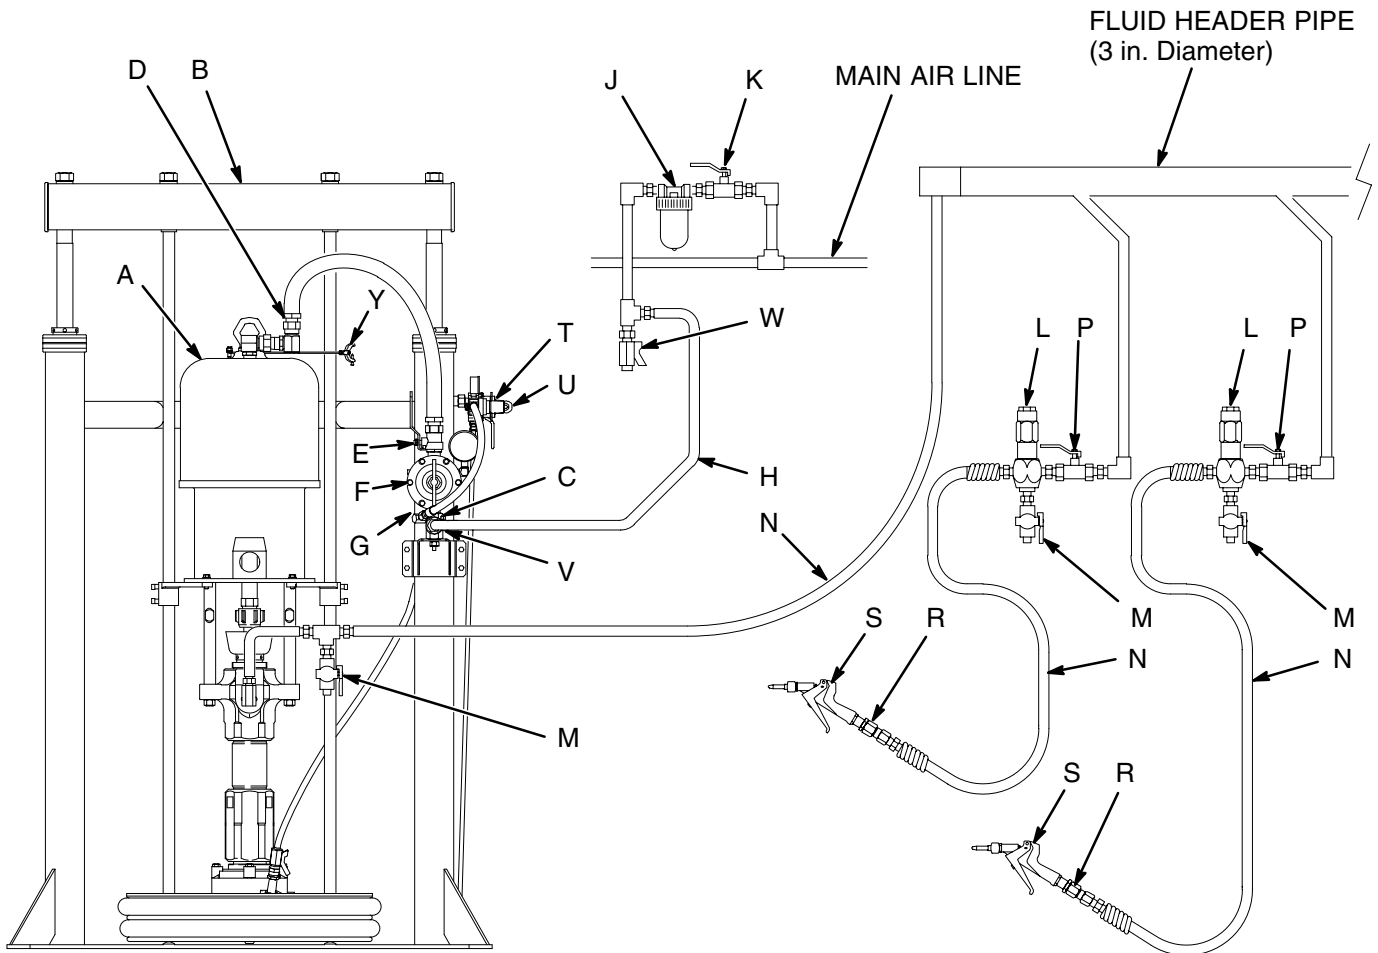
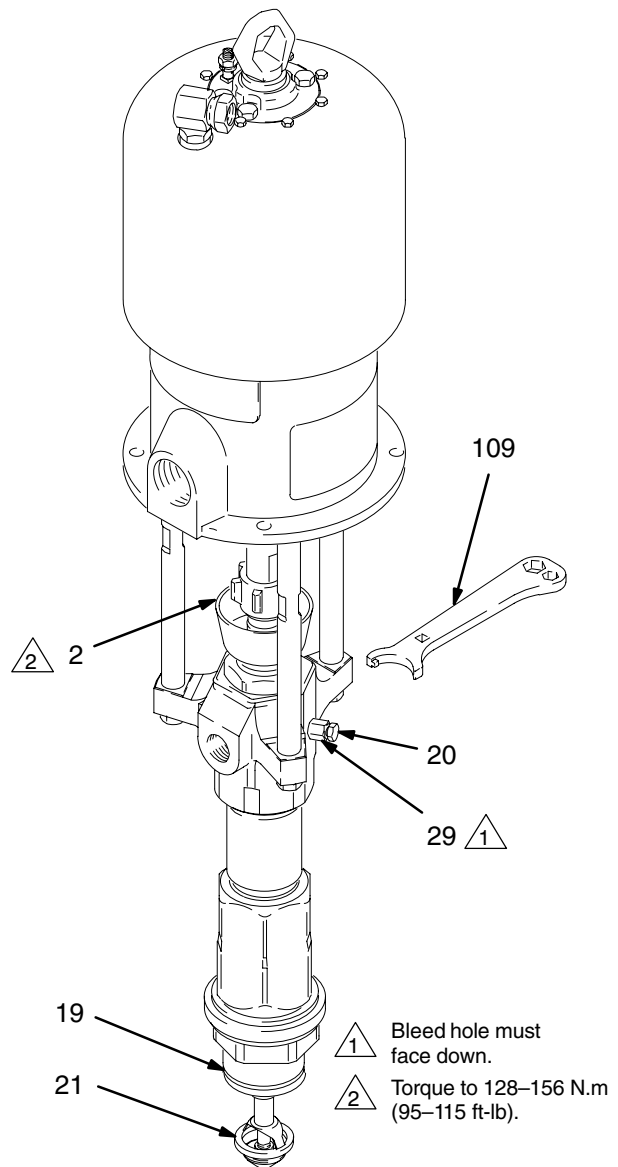

Fig. 3
Fig. 5
The Typical Installations shown in Figs. 3 and 4 are only guides for selecting and installing system components and accessories. Contact your Graco distributor for assistance in designing a system to suit your particular needs.
Mount the pump (A) to suit the type of installation planned. Fig. 3 on page 8 illustrates a ram-mounted pump in a multi-gun header system. Pump dimensions and the mounting hole layout are shown on page 49.
Install the following accessories in the order shown in Fig. 3, using adapters as necessary:
Install the following accessories in the positions shown in Figs. 3 and 4, using adapters as necessary:
- Install a **fluid shutoff valve (P)** at each gun/valve drop, to isolate the gun/valve and fluid accessories for servicing.
- Install a **fluid drain valve (M)** near the pump fluid outlet, and at each gun/valve station. The drain valves are required in your system to relieve fluid pressure in the displacement pump, hose and gun/valve (see the **WARNING** at left). Drain valves at the gun/valve stations may be mounted in the base of a **fluid regulator (L)**, using an adapter.
- **A fluid regulator (L)** controls fluid pressure to the gun/valve, and dampens pressure surges.
- **A gun or dispense valve (S)** dispenses the fluid. The gun shown in Fig. 3 is a high pressure dispensing gun for highly viscous fluids.
- **A gun/valve swivel (R)** allows freer gun/valve movement.
Before starting, fill the packing nut (2) 1/3 full with Graco Throat Seal Liquid (TSL) or compatible solvent. See Fig. 5.
2. See Fig. 3. Close the air regulator (F).
4. Hold a metal part of the gun/valve (S) firmly to the side of a grounded metal pail and hold the trigger open.
8. If the pump fails to prime properly, open the bleeder valve plug (20) slightly. Use the bleed hole, on the underside of the valve body (29), as a priming valve until the fluid appears at the hole. See Fig. 5. Close the plug.
- NOTE:** When changing fluid containers with the hose and gun/valve already primed, open the bleeder valve plug (20), to help prime the pump and vent air before it enters the hose. Close the plug when all air is eliminated.
10. Use the air regulator (F) to control the pump speed and the fluid pressure. Always use the lowest air pressure necessary to get the desired results. Higher pressures cause premature tip/nozzle and pump wear.